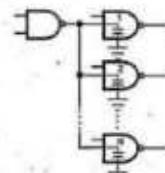

Fig. 3.4.8 One CMOS output driving several CMOS inputs
- The CMOS inputs have an extremely large resistance ( $10^{12} \Omega$ ) that draws essentially no current from the signal source. Each CMOS input, however, typically presents a 5 pF load to ground as shown in the Fig. 3.4.8. This input capacitance limits the number of CMOS inputs that one CMOS output can drive.